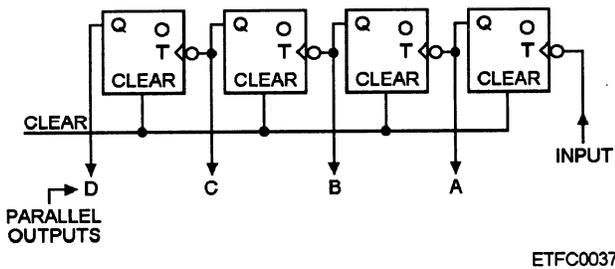

Figure 4-13.—Example of an asynchronous operation with a flip-flop.
• **Asynchronous operations** —This term describes the operation of logic functions that are not controlled by the occurrence of a specific timing pulse. Refer to figure 4-13.